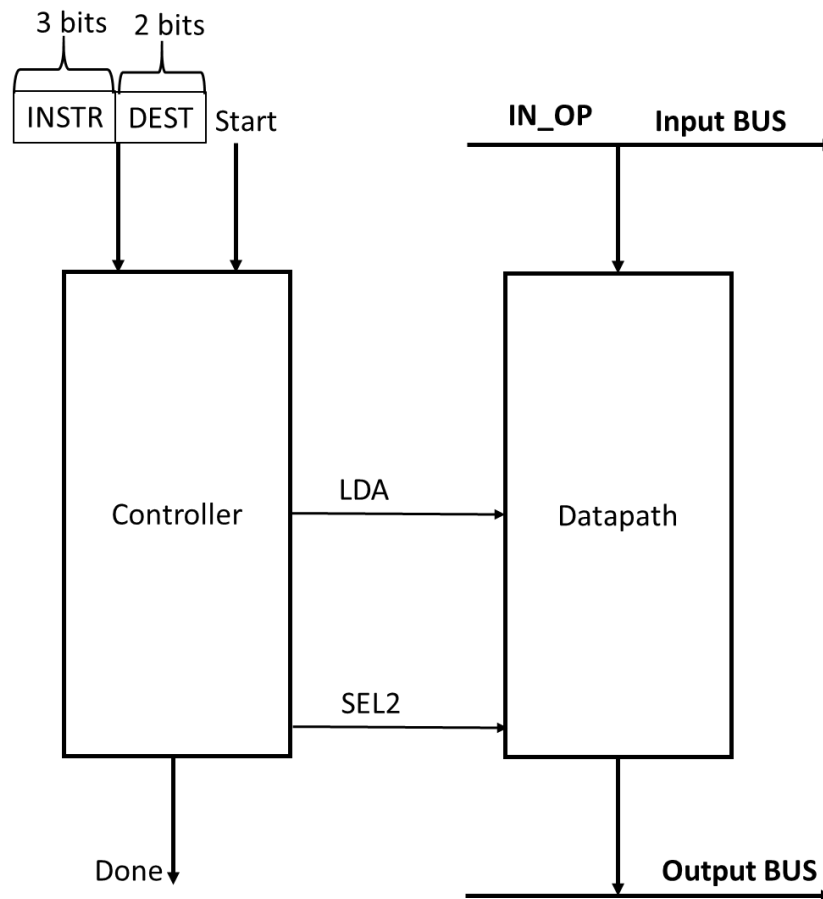

Figure 3: Control and Datapath for the G-CPU
As shown on Figure 3 Your controller should have **two** inputs: START, and the instruction (Remember: clock inputs are implied). It should have **one** output: DONE, to indicate that the requested instruction has completed.
1. Complete the diagram of Figure 3 that shows how the controller interfaces (control, status, and data signals) with the datapath. Clearly label all inputs and outputs of the controller. **(2 pts)**